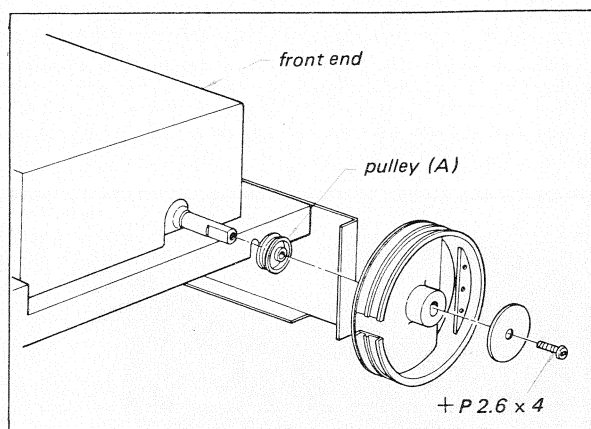

Fig. 2-14 Tuning-capacitor drive drum installation
2. Remove the washer from the tuning capacitor shaft by loosening the screw (+P 2.6 X 4) as shown in Fig. 2-14.